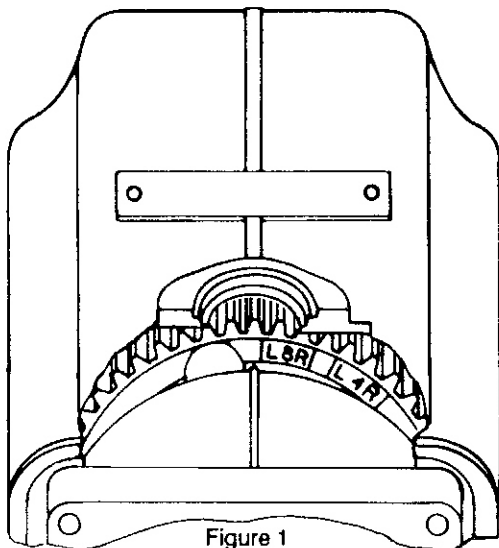
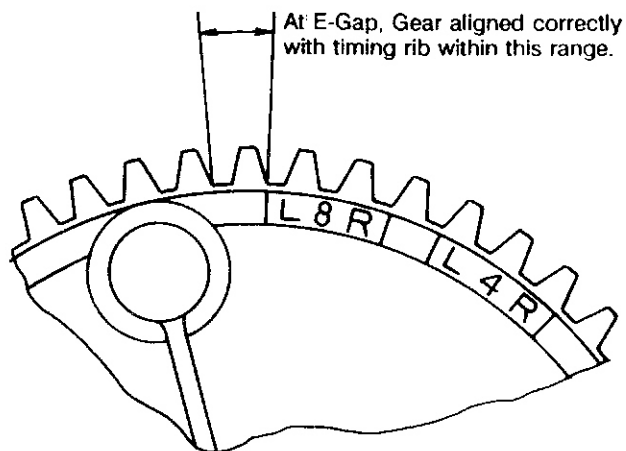

Figure 1
Figure 2
- d. Holding the distributor gear and block aligned as described above, assemble the block and gear into the housing, meshing distributor and drive gears together. See Figure 1. Rib alignment with tooth peak shown in Figure 2 is preferable, however, rib alignment with valley is permissible.